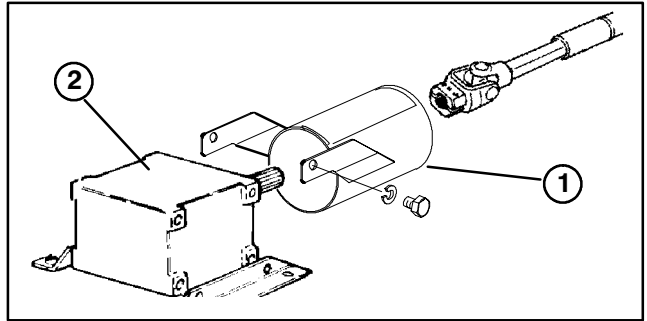

Figure 6
CONNECT PTO SHAFT TO CUTTING UNIT GEAR BOX (Fig. 6–7)
1. Remove (2) capscrews and lockwashers securing PTO guard mounting brackets to gearbox. Retain fasteners for re–installation.
2. Slide PTO shaft guard onto PTO shaft, positioning guard as shown in figure 6.